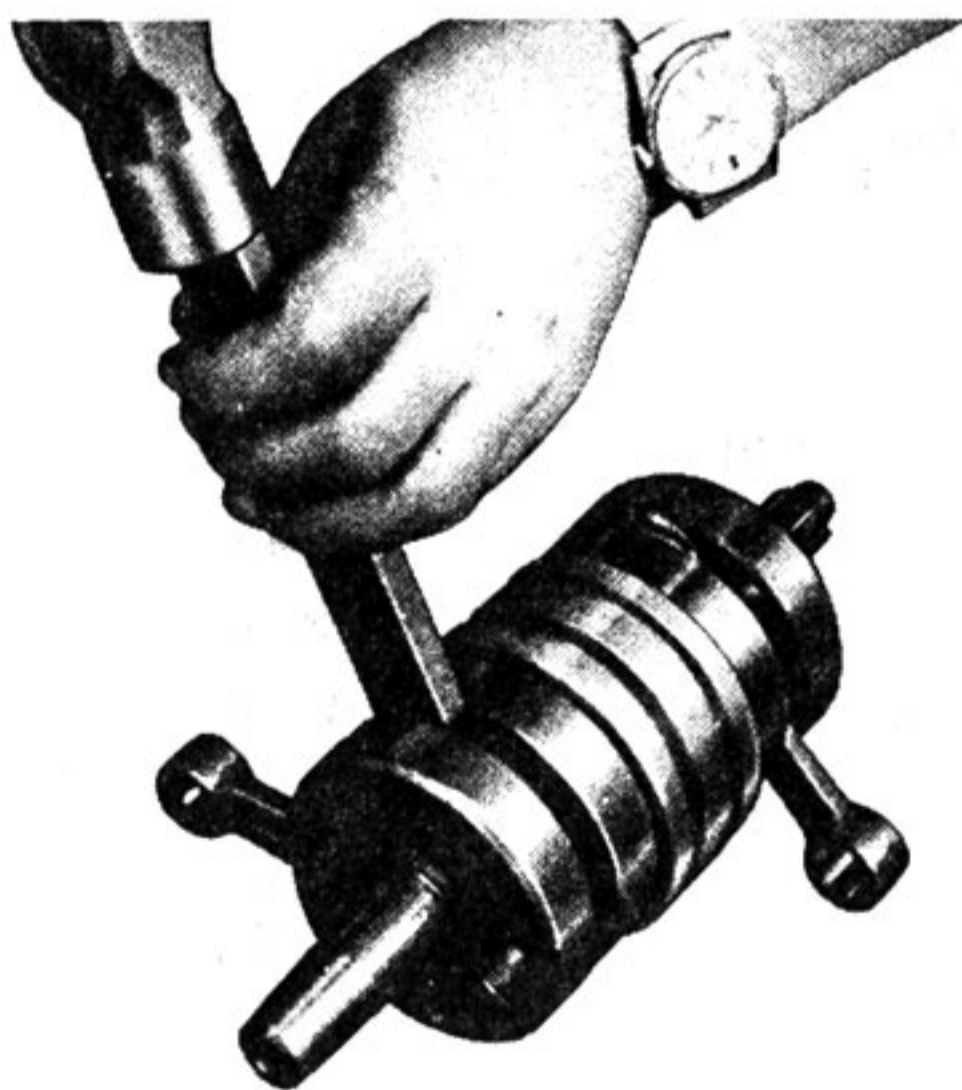

Fig. 4-17-20
(2) To correct crank wheel runout drive a wedge into the gap between the crank wheels, or use a brass hammer to tap the wheels into alignment. (Figs. 4-17-20 and 21)